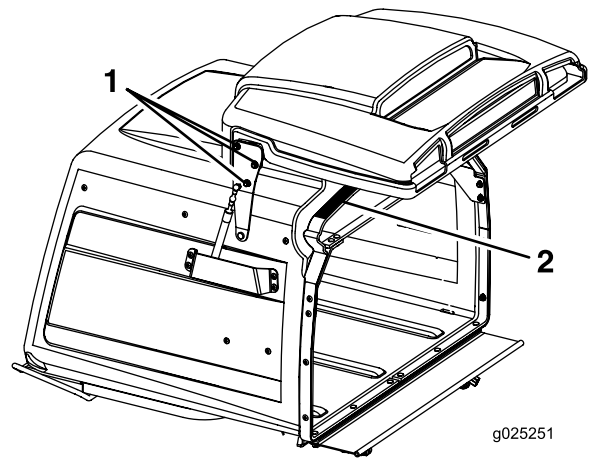

Figure 59
3. Loosen the six door hinge nuts (Figure 59).
4. Open the door and place a 3/8 inch rubber strip or 3/8 inch diameter hose between the hopper and the hopper door (Figure 59).